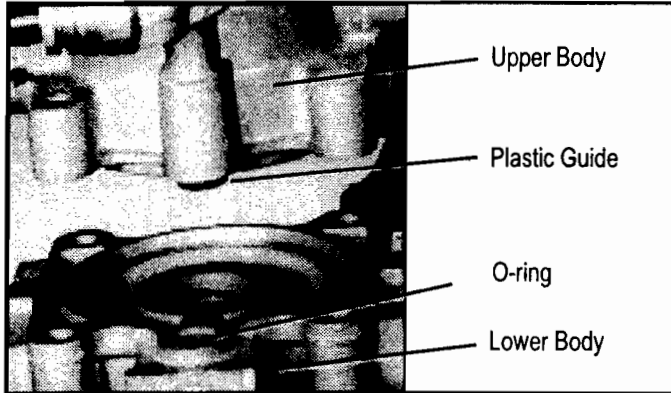

Figure 5 - PLASTIC GUIDE AND O-RING SEAL
5. Locate the plastic guide in the upper body of the SR-7™ valve directly above the supply port. The o-ring seal from the lower body may stick to the plastic guide when the bodies are separated. If so, remove it from the guide and place it back into the lower body. An extra o-ring has been included in this kit in the event that the o-ring is lost or damaged during servicing. Refer to Figure 5.